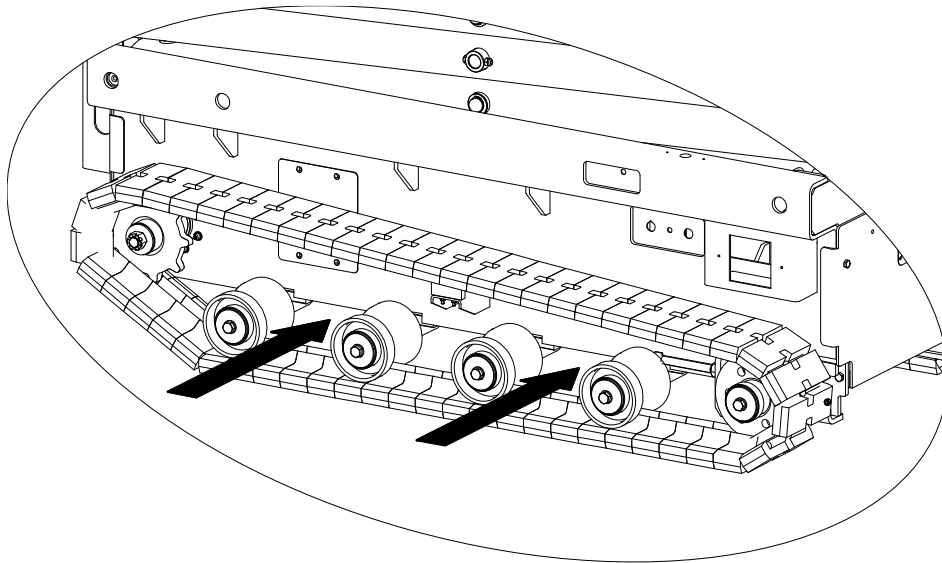
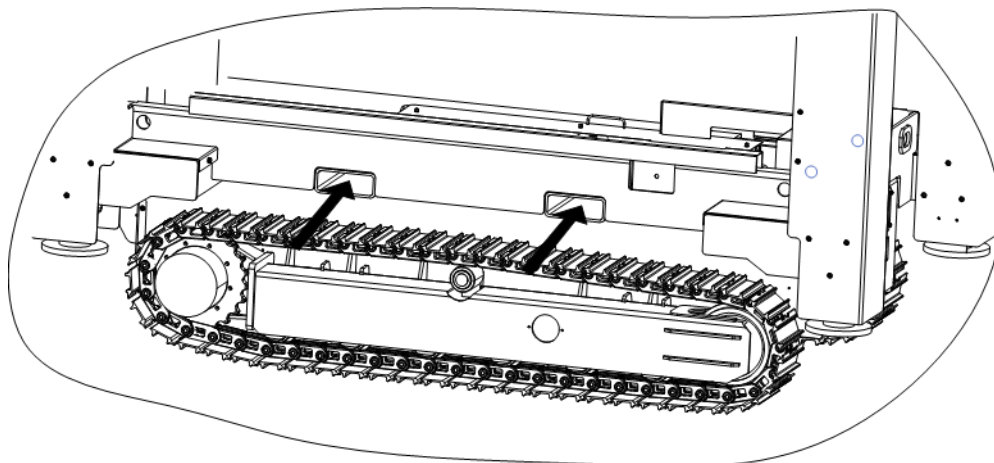

Figure 4-5 ZS0508C/ZS0610C Series forklift pockets
Figure 4-6 ZS1216C Series forklift pockets
- 3) Use the forklift pockets located on both sides of the ladder. See Figure 4-5 to Figure 4-6.